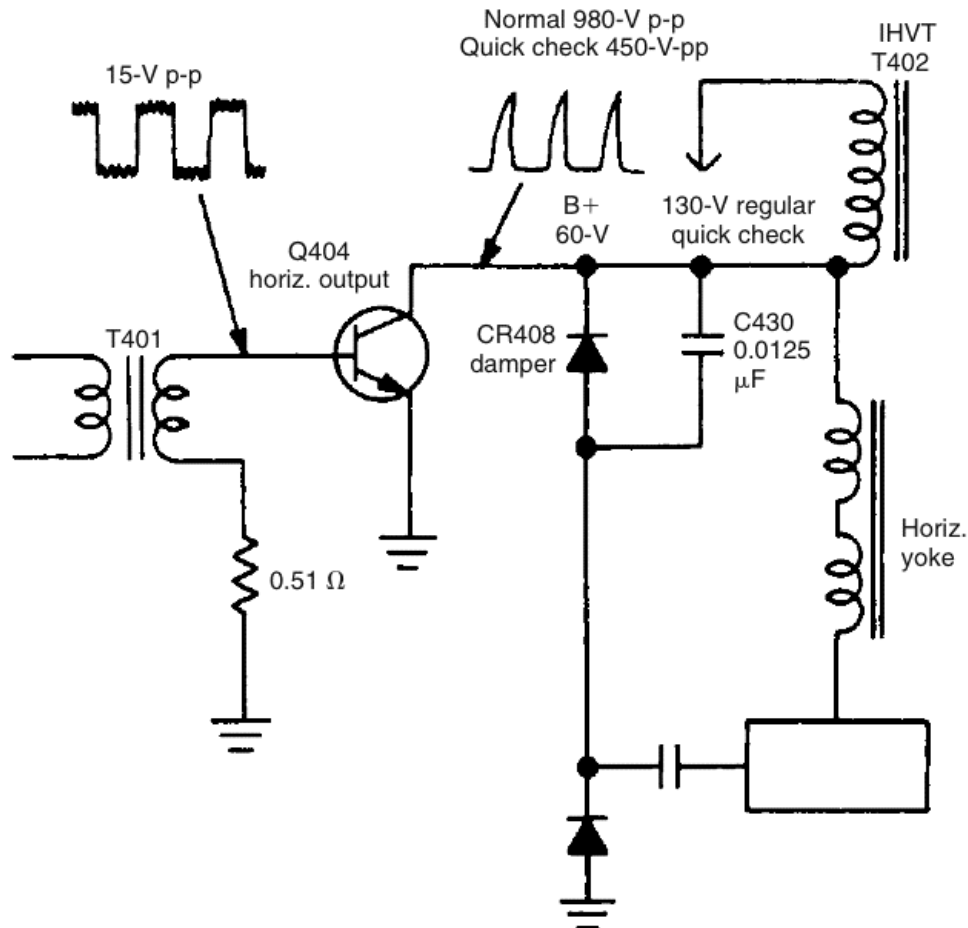

FIGURE 4-53 Check the waveforms at the base and collector terminals with the scope of the horizontal output transistor.
- 5 Check the waveform at the base of the horizontal output transistor (15-V p-p) (Fig. 4-53).